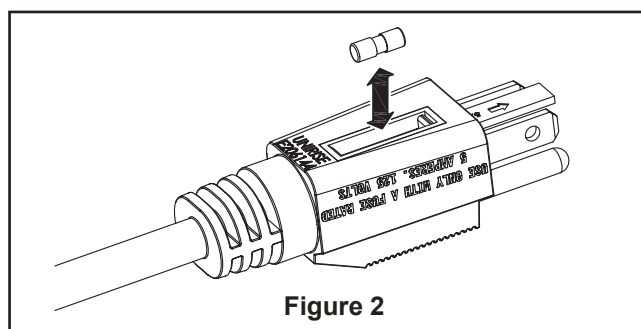

Figure 2
2. Assemble the cap rubber on to the screw of the leg. (Figure 2)
3. Remove fuse carefully. (Figure 2)